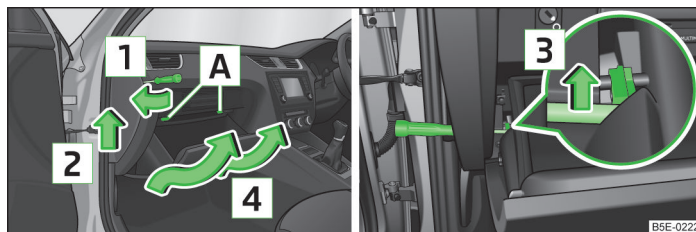

Fig. 216 Storage compartment on the front passenger's side: RHD
- Insert a screwdriver under the side cover » Fig. 216.
- Pull in the storage compartment behind the brackets **A** » Fig. 216.